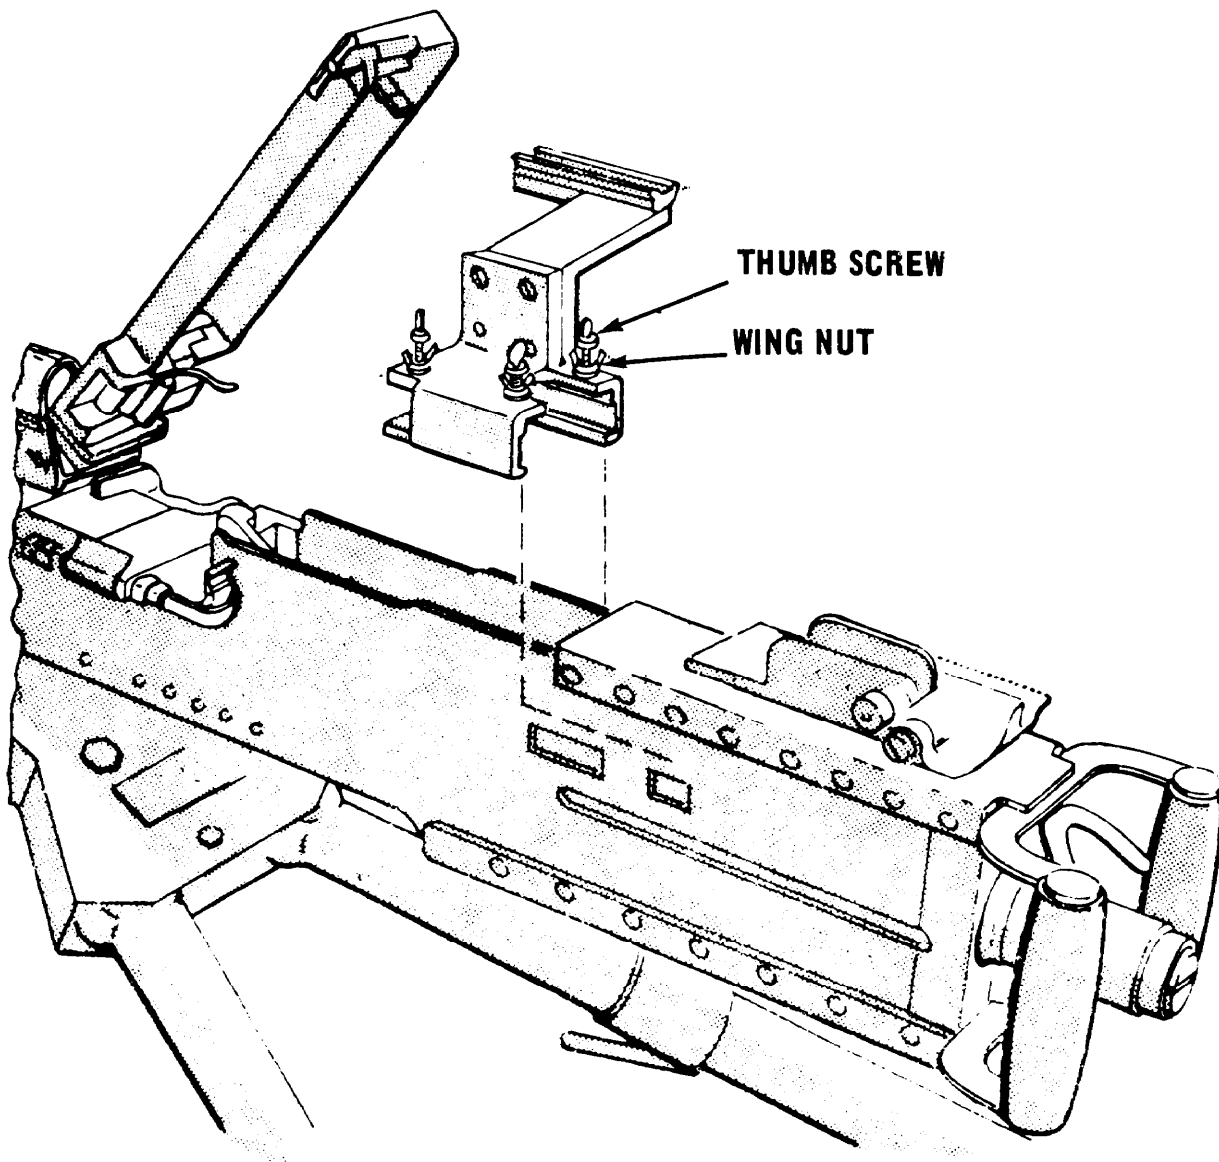

Figure 7. Weapons adapter installation on the caliber .50 machinegun.
18. Installation of Weapons Adapter Bracket and Sight on Browning Machinegun Caliber .50 HB M2 (Figs 7 and 8). The weapons adapter bracket and the Sight are mounted on the caliber .50 machinegun as follows: